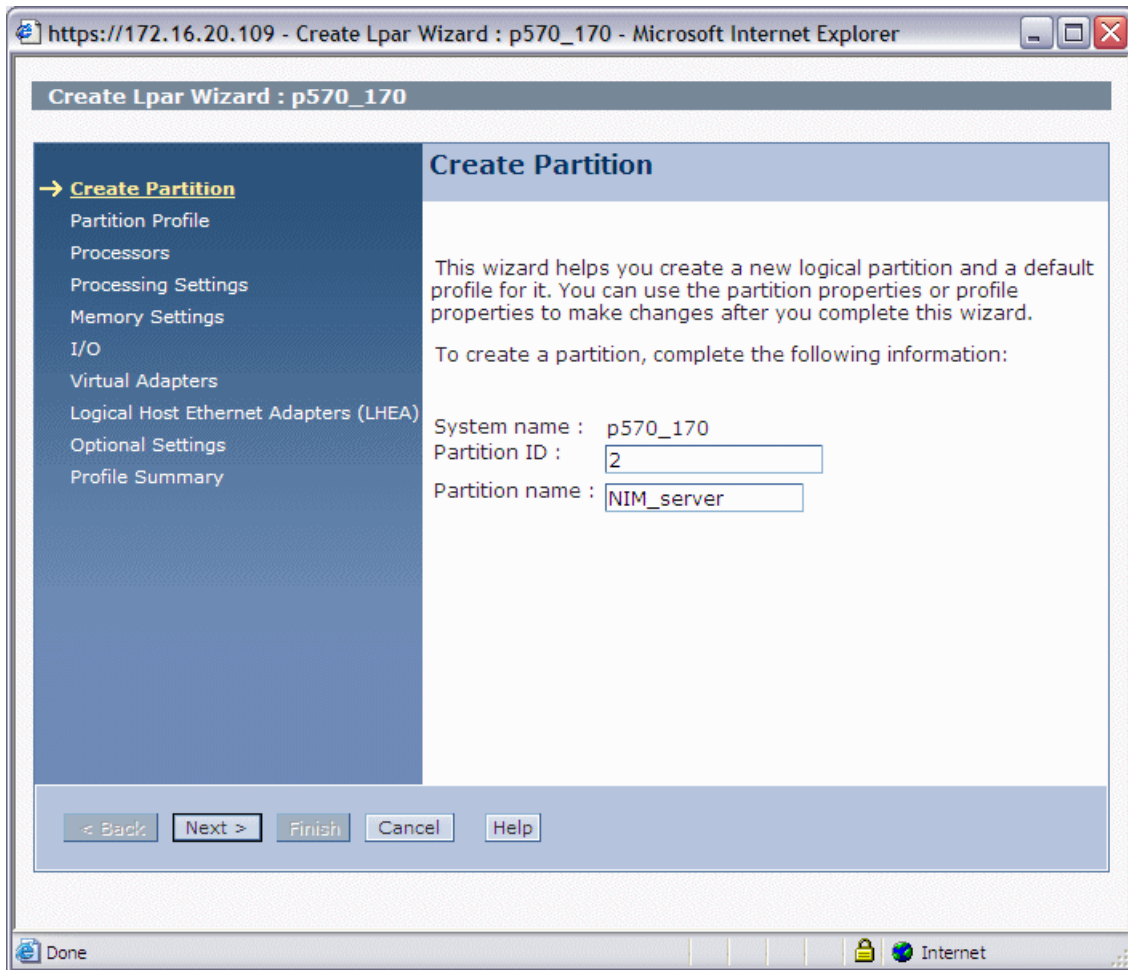

Figure 13-2 Create Partition dialog
2. Enter the name of the partition as shown in Figure 13-2. Note that Partition ID is 2. This ID was specified as the connecting client partition when the virtual SCSI server adapters were created on the Virtual I/O Server partition. After you have defined the Partition name, the HMC will update the definitions of the server SCSI adapters to add that Partition name.